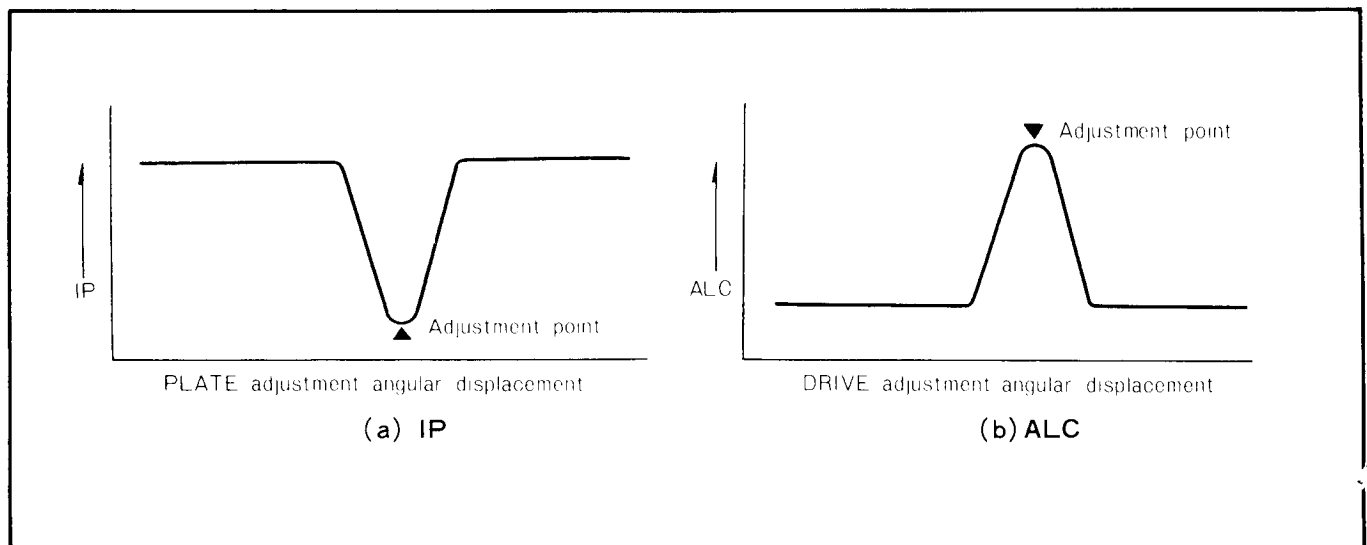

Fig. 11 Plate and Drive Tuning
■ **DRIVE TUNING** (See Figure 11)
■ **PLATE TUNING** (See Figure 11)